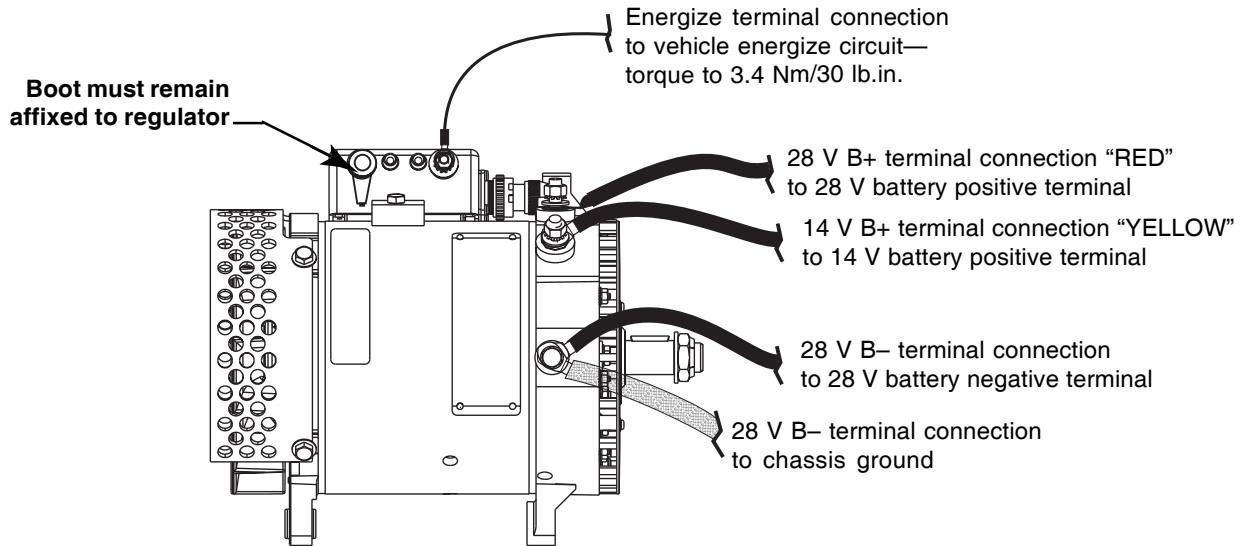

Figure 2a – Wiring Connections
3. Connect remaining cables as shown in Figures 2a, 2b, and 2c.